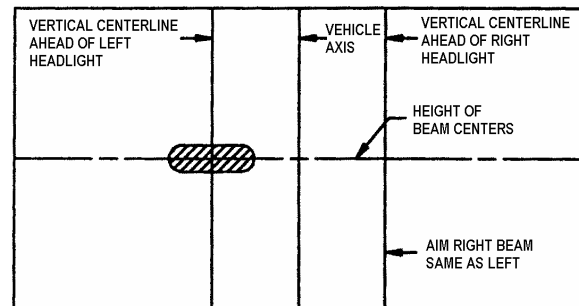

FIGURE 58: HIGH-INTENSITY ZONE (SHADED AREA) OF A PROPERLY AIMED UPPER BEAM ON THE AIMING SCREEN 7.6 M (25FT) IN FRONT OF VEHICLE
5. High beam headlights are aimed so that the center of the high-intensity zone is located at the horizontal and straight ahead vertically (Fig. 58).